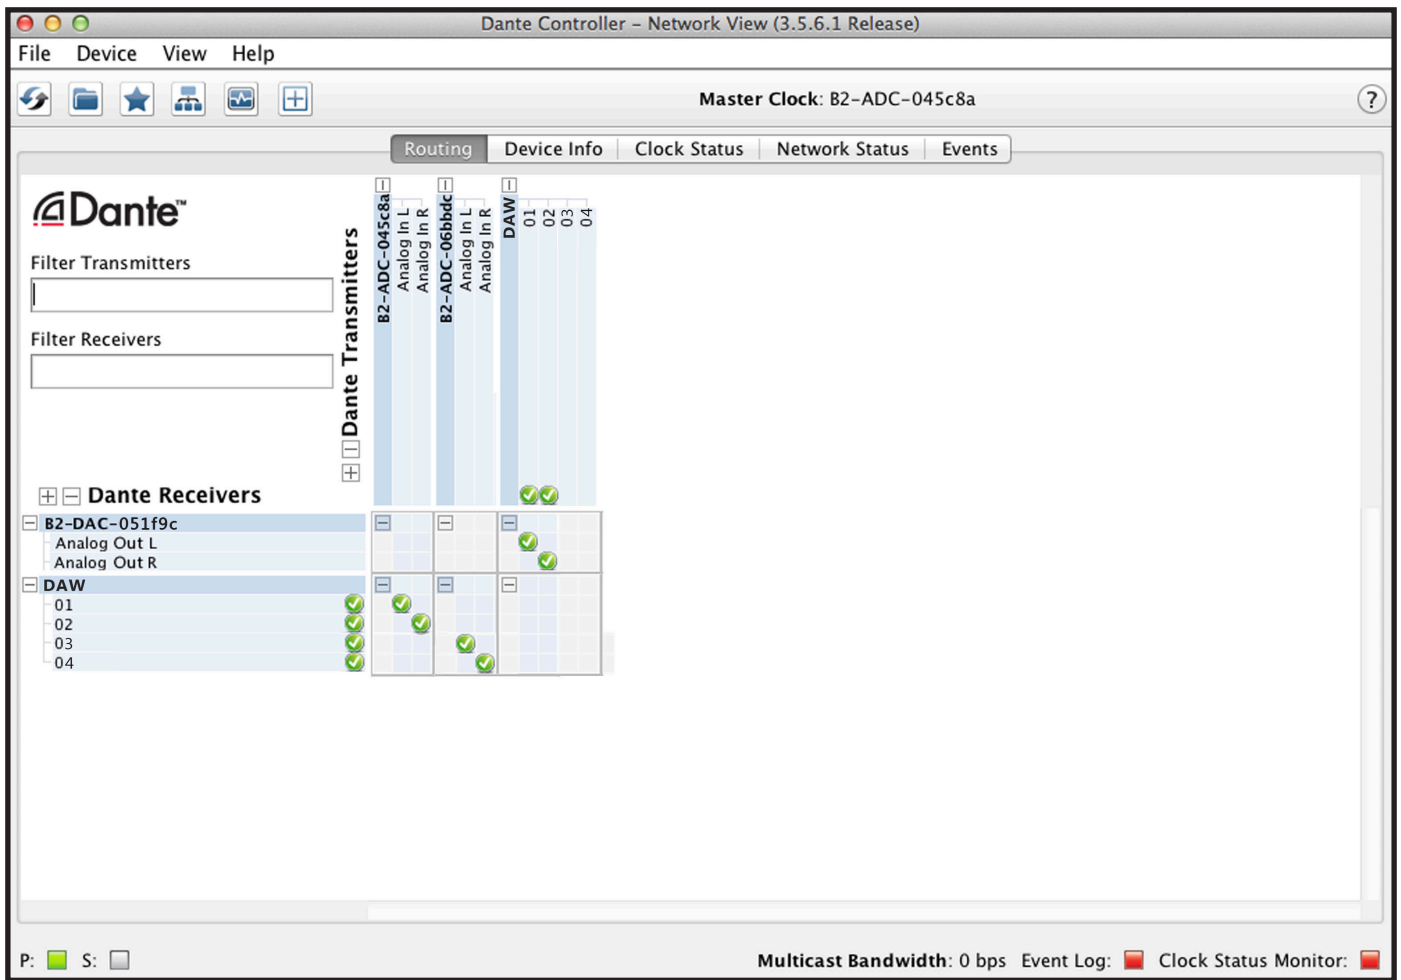

Figure 8: Example with 2 ADCs and 1 DAC
6. Click on ROUTING tab (Figure 8, page 9)
Click on the corresponding coordinates to enable device, as per Figure 8.